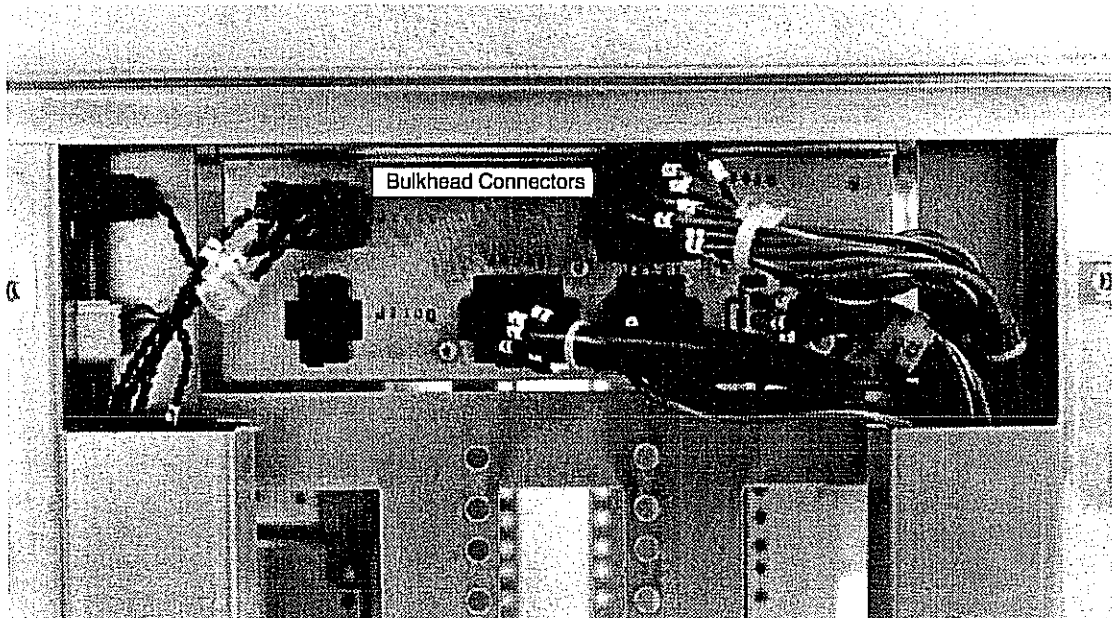

Figure 7-23. Bulkhead Connectors
9. Disconnect the bulkhead connectors (six on the front and five on the back) from the bulk converter. Refer to Figure 7-23.